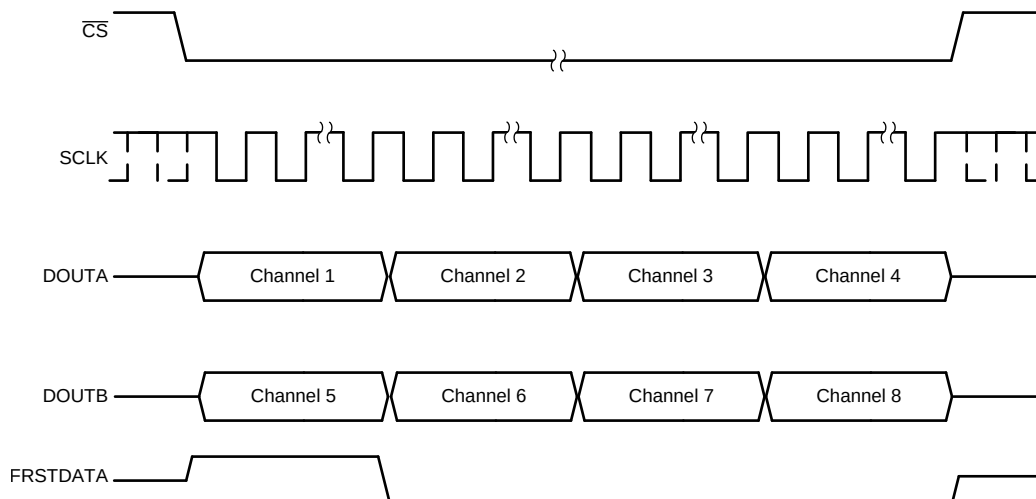

Figure 70. Data Read Back in the Serial Interface Using Both DOUTA and DOUTB Timing Diagram
- In order to minimize the time for the data read operation in serial mode, both DOUTA and DOUTB can be used to read data out of the device. In this case, the conversion results from the first set of channels (channels 1-4 for the ADS8588S) appear on DOUTA and the conversion results from the second set of channels (channels 5-8 for the ADS8588S) appear first on DOUTB. To read the data for all channels, provide a total of $16 \times 4 = 64$ SCLK cycles for the ADS8588S. This entire data frame can be created within a single $\overline{CS}$ pulse or each group of 16 SCLK cycles can be individually framed by the $\overline{CS}$ signal. Figure 70 shows an example timing diagram.